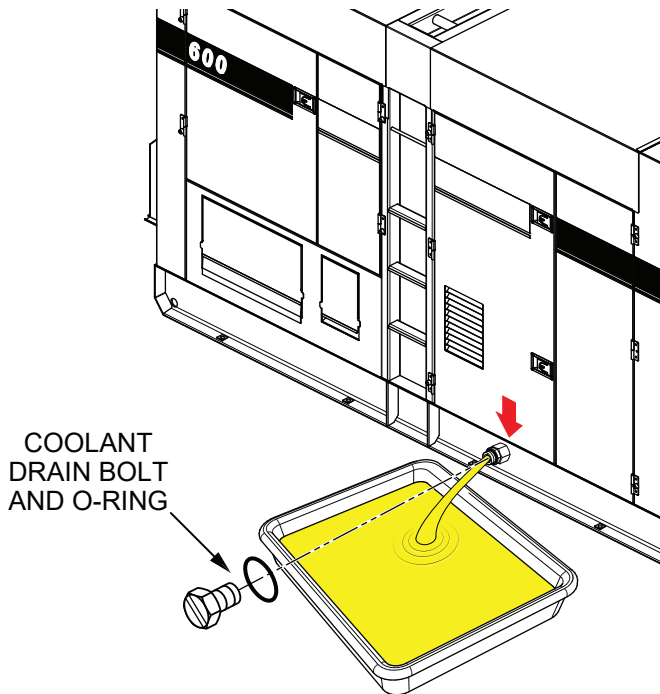

Figure 64. Draining The Engine Coolant
2. Open the cabinet door and remove the **coolant drain bolt** and **O-ring** (Figure 64), then allow the coolant to drain into a suitable container.